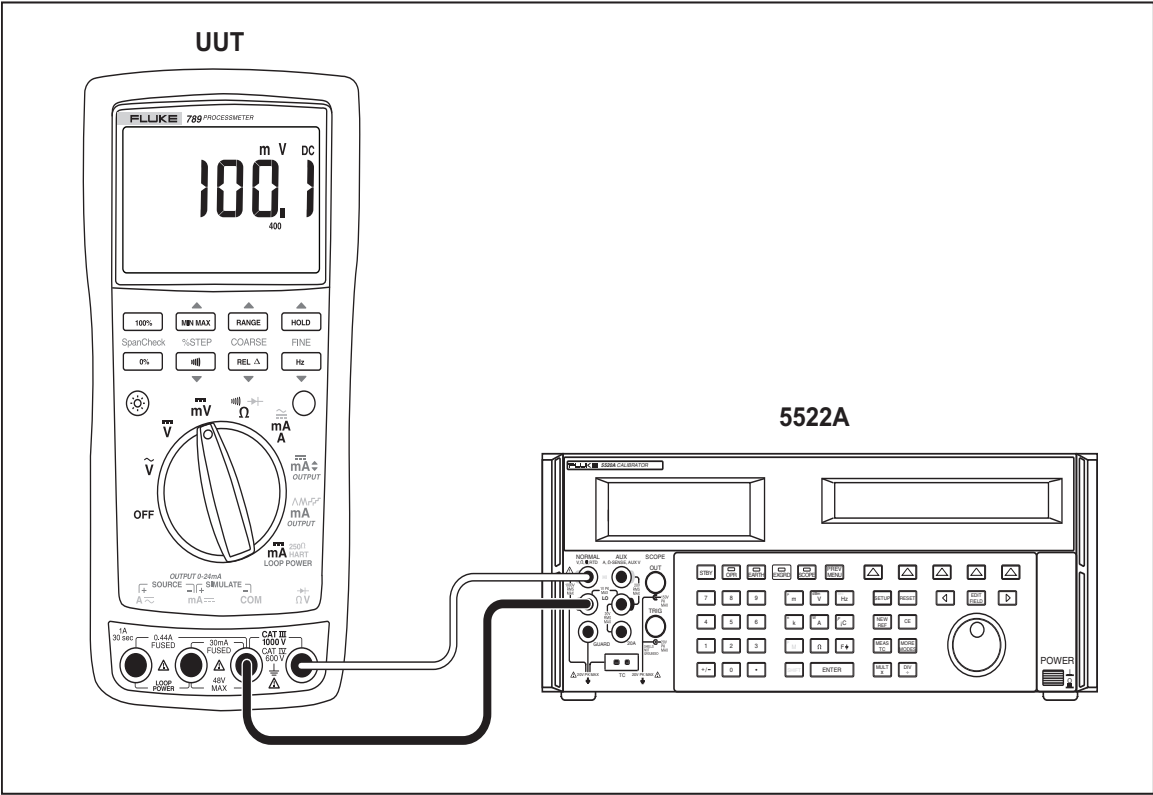

Figure 8. DC mV Measurement Test Connections
- 3. Connect the calibrator to the **COM** and **mV** terminals on the UUT as shown in Figure 8.